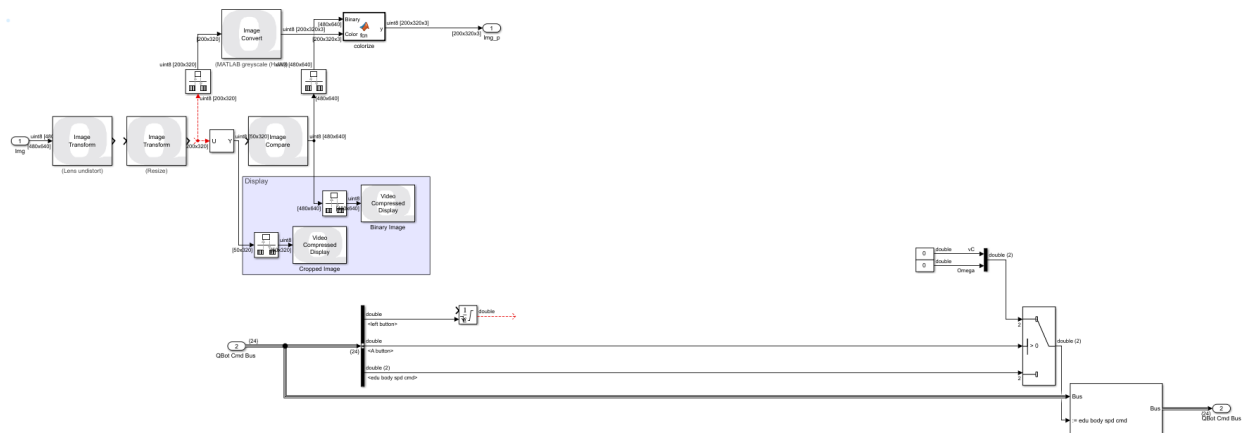

Figure 4. Student Image Processing Block
2. Currently, your block should look like Figure 4. It is incomplete and you will fill it as you go through the next sections.
2. Using the **ctr** output (center of the blob) from the **Image Find Objects** block, find the error representing the difference between the center of the line and the center of the camera feed. Consider the image is 320 pixels wide and you want the distance between the blob center and the image center. Figure 4 will help you visualize this.